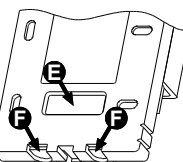

Fig. 5
**Back cable entry:** Open the hole E Fig. 5, with a screwdriver.
**Bottom cable entry:** Open one or both holes F Fig. 5, with a screwdriver.